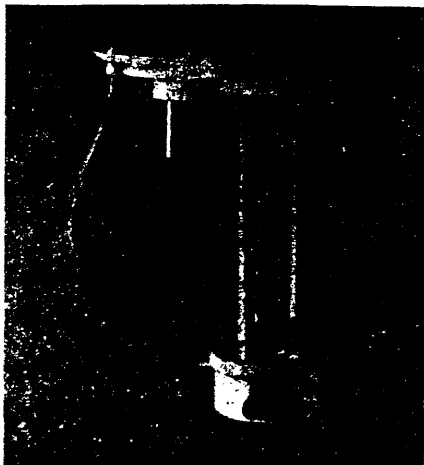

Figure 8.8
2. **AGITATE THE SAMPLE** - With the Vent Cover closed, turn the Valve so the spout is pointing down. See Figure 8.8. Allow the milk in the Sampler to agitate a minimum of 10 seconds for up to 30 lbs. (13.6 kgs.) of milk. For production greater than 30 lbs. (13.6 kgs.) add 1 second for each 3 lbs. (1.4 kgs.) of milk.